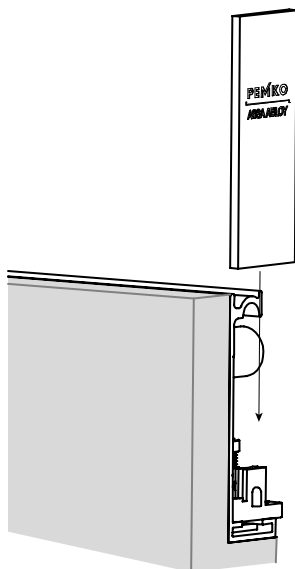

Figure 38
- Position endcaps over cable clamp as shown in **Figure 38**.